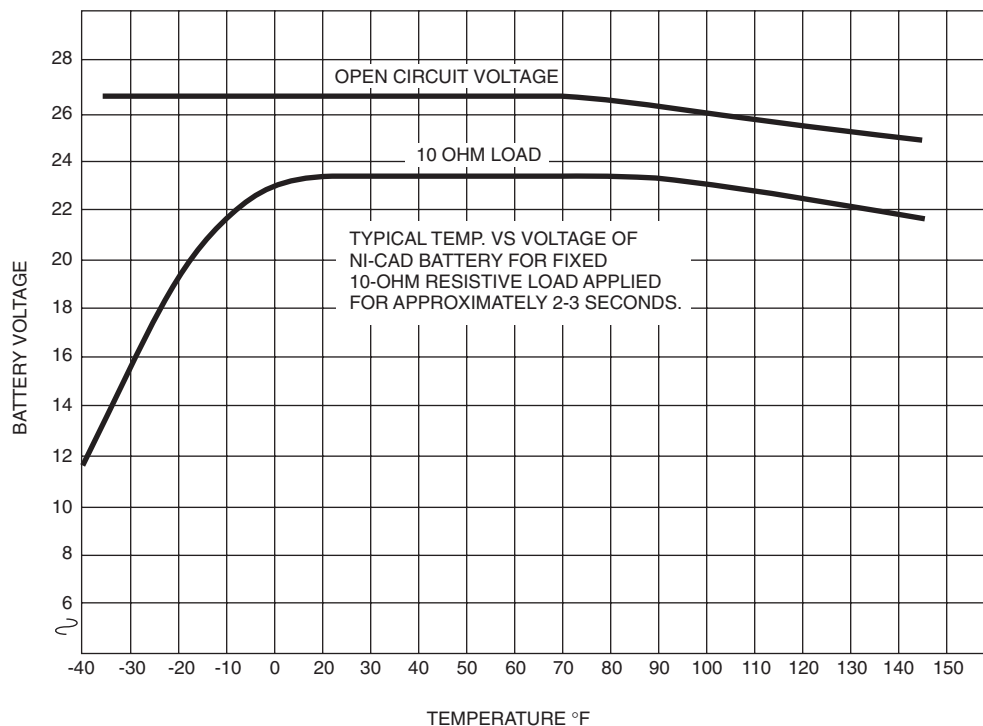

Figure 9.
3. If the temperature is below 20-degrees F, the voltage should be approximately that shown by the lower curve in Figure 9. If the voltage is lower than this, the battery should be removed for shop testing.